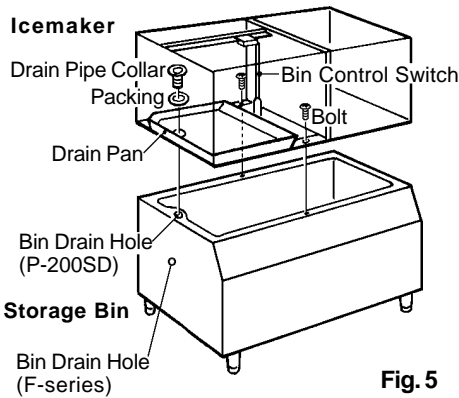

Fig. 5
- 5) Place the icemaker on the top of the Storage Bin. Be careful not to damage the icemaker frame and the Bin Control Switch. See Fig. 5.
6) Secure the icemaker with the two bolts provided. See Fig. 5.
7) Align the Storage Bin drain hole and the drain pan hole. Insert the Packing (bin accessory) and fasten the Drain Pipe Collar (bin accessory). See Fig. 5.